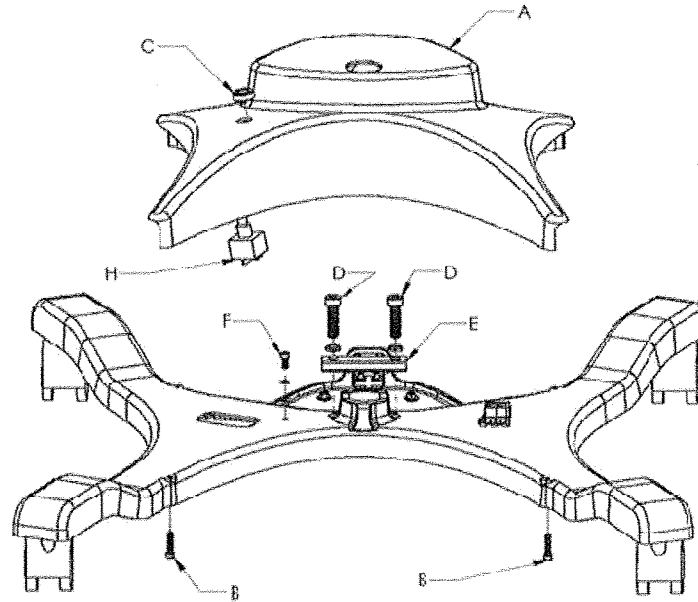

Figure 1
4.1 Base Post Assembly Parts (Refer to Figure 1)